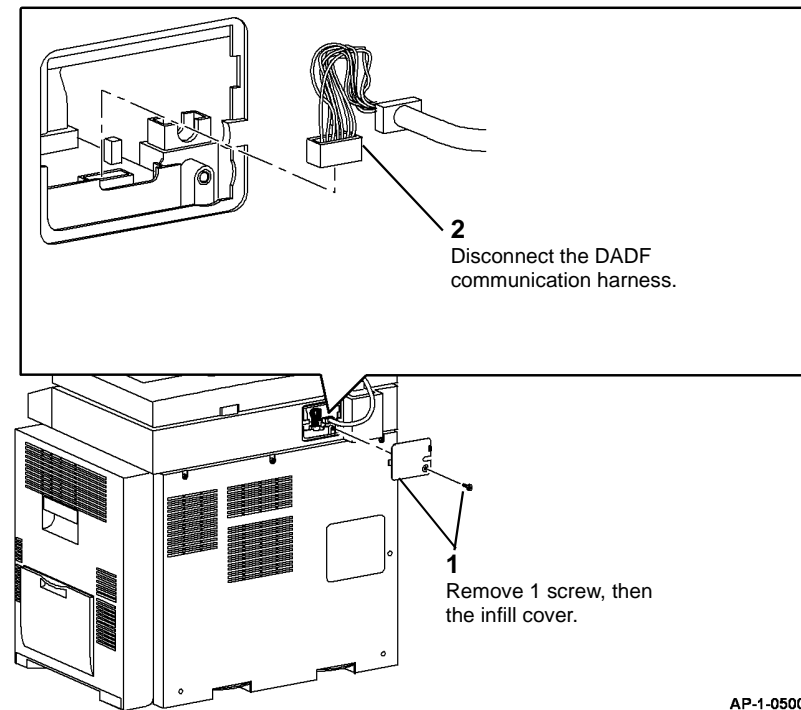

Figure 1 DADF communication harness
1. Disconnect the DADF communication harness, Figure 1.